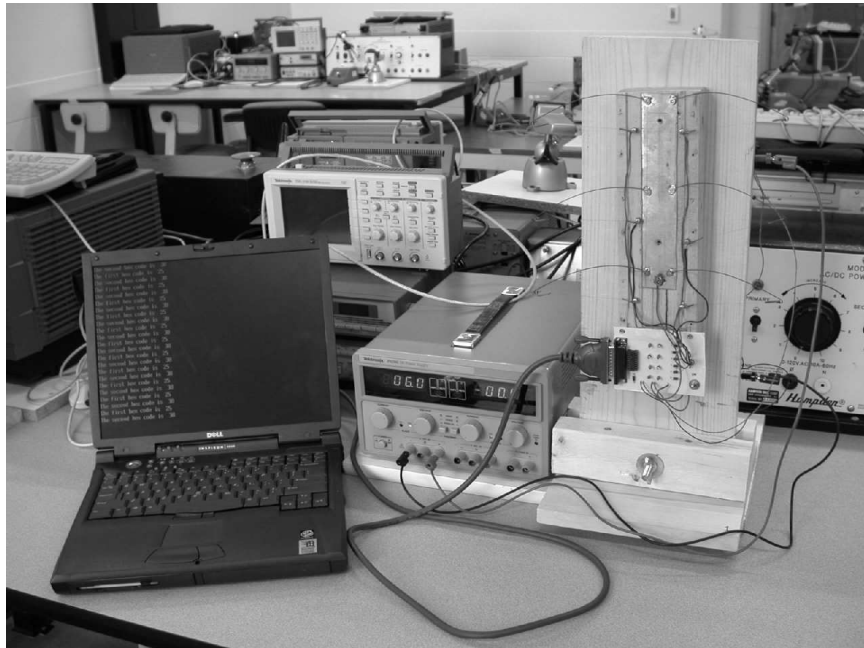

Figure 25: Stiquito Emulator setup
5. Connect the StiquitoTM emulator to the computer using the parallel port cable. The completed setup is in Figure 25.